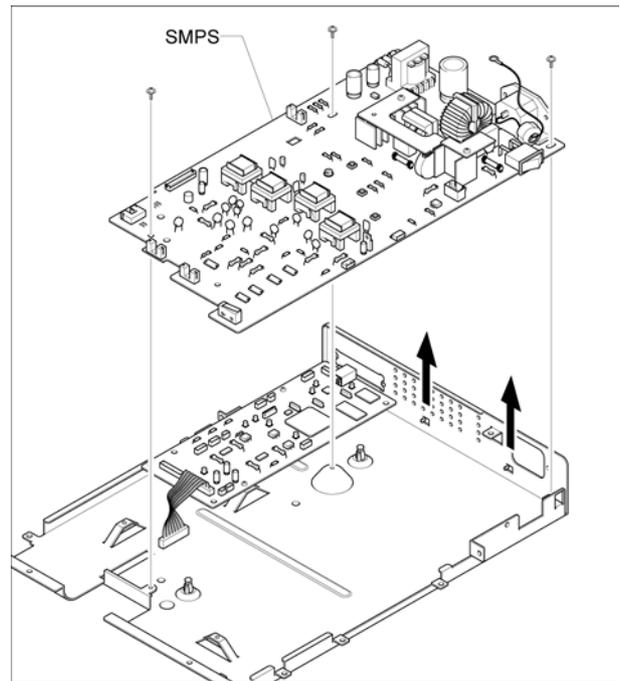

Figure 3
4. Remove 3 screws then the SMPS/HVPS, Figure 3.